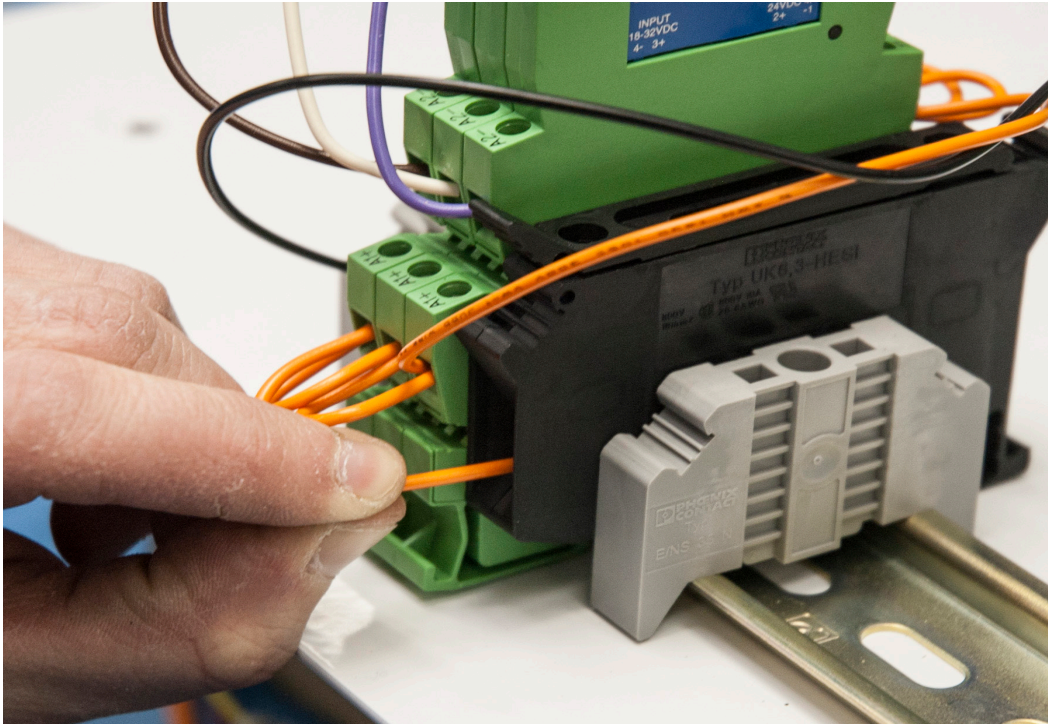

Figure 6
10. Connect the other end of the wire to the new fuse block. See fig. 6.